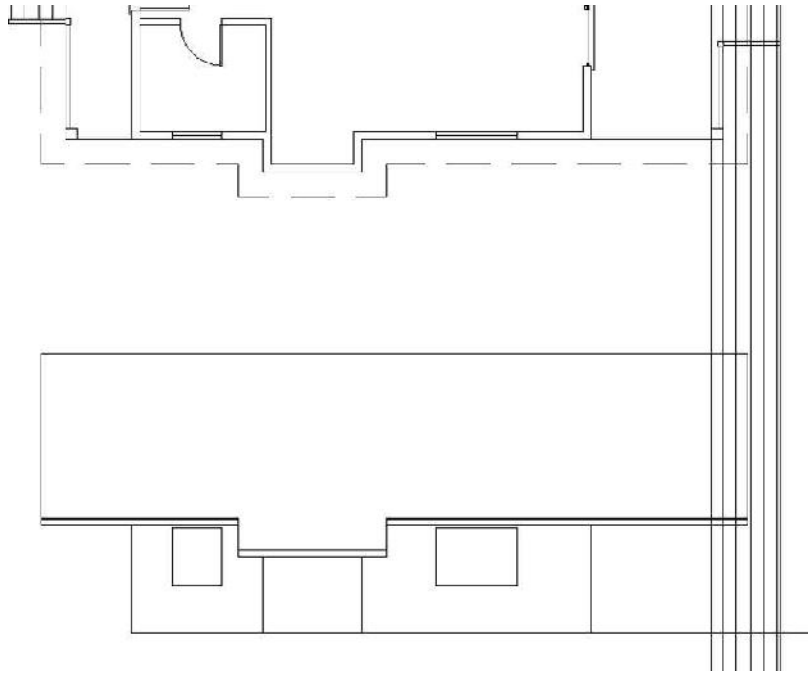

FIGURE 10.18: Vertical construction lines drawn from deck post, stairs, and railings
5. Choose the Vertical option, and draw lines from the corner post, the stairs, and the end of the railing in the floor plan, as shown in Figure 10.18.